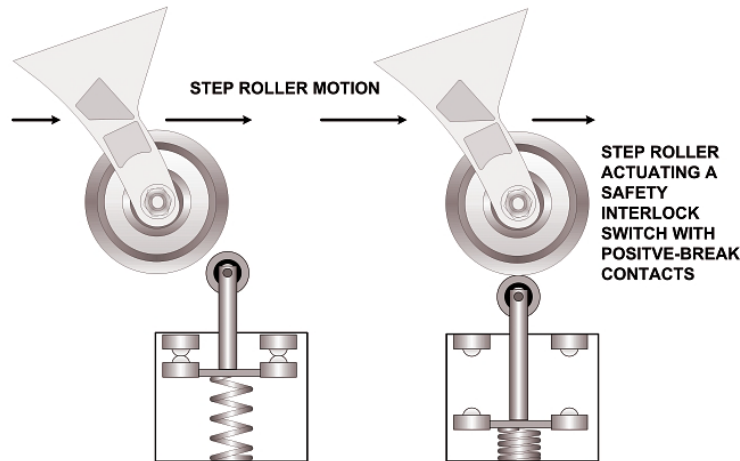

Figure 3.2 Positive-Break Contacts
“**Positive-break**” safety interlocks are electromechanical switches designed with normally-closed (NC) electrical contacts which, upon switch actuation, are forced to open by a non-resilient mechanical drive mechanism such as a step roller. (Spring actuators are not considered positive-break mechanisms.) Figure 3.2 illustrates how positive-break normally closed contacts are forced to open by a non-resilient mechanical mechanism (step roller).